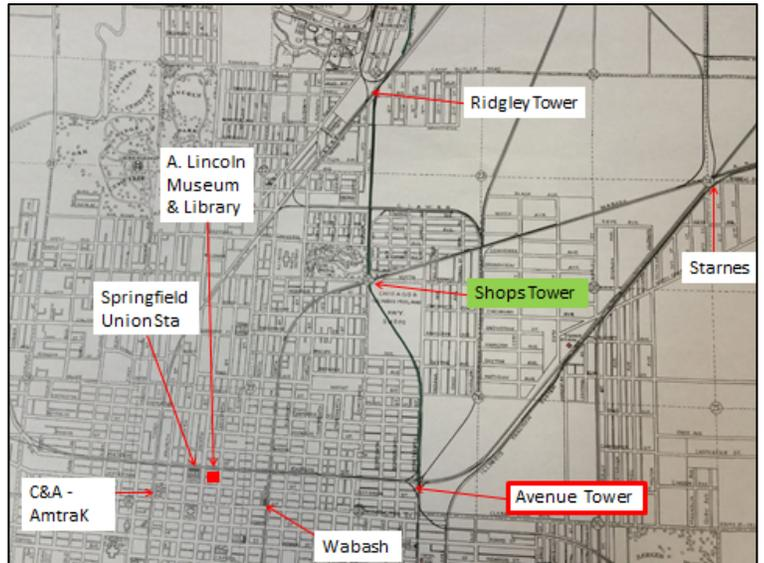

Fig. A-1: Map of Springfield Illinois with location of Avenue Tower in relation to other key landmarks.
The subject of this article is the Illinois Central Railroad's Avenue Tower Interlocking Plant located in the southeastern quadrant of Springfield Illinois (Figs. A-1, A-2, and A-3) at a complex intersection between the Chicago & Illinois Midland (C&IM), Baltimore & Ohio (B&O), Gulf Mobile and Ohio (GM&O) and Illinois Central (IC). It was complex because it consisted of the intersection of main lines, branch lines, joint trackage right passenger terminal leads, sidings, and mine tracks. I have not been able to find any info on when it was constructed and put into service (my guess is very early in the 20th Century based on its architecture)